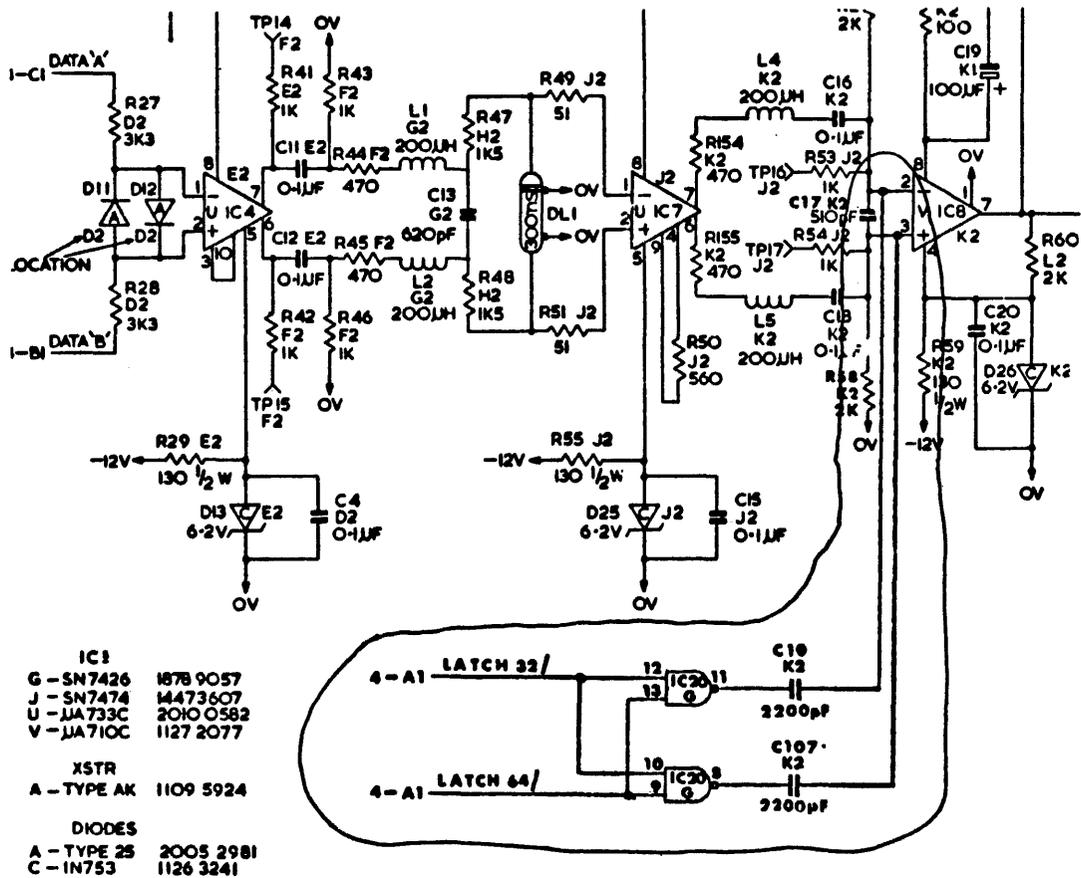

FIGURE 4
11. Modify the schematics as shown in figures 4 and 5.
17. Update schematics as shown in figures 4 and 5.